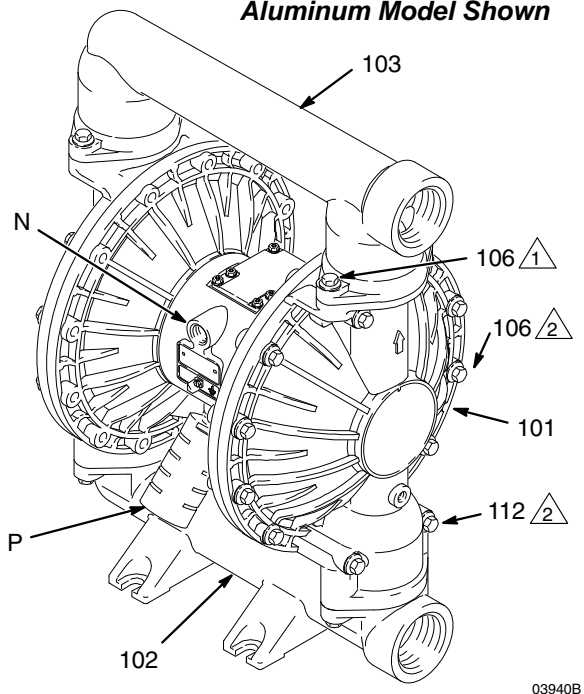

FIG. 3
- The pump is very heavy. If it must be moved, have two people lift the pump by grasping the outlet manifold (103) securely. See FIG. 3 on page 10.